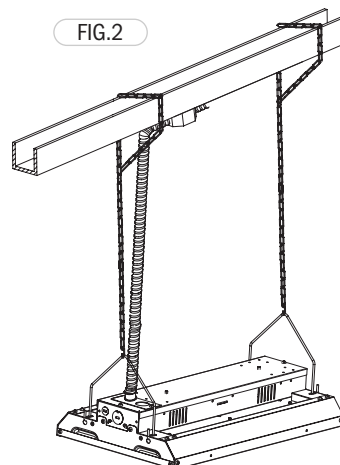

FIG.2
- 1 Install the Chain and Wire Hanger - Insert the chain into the provided wire hanger. Secure the other end of the chain to a structure. (Figure 2) .